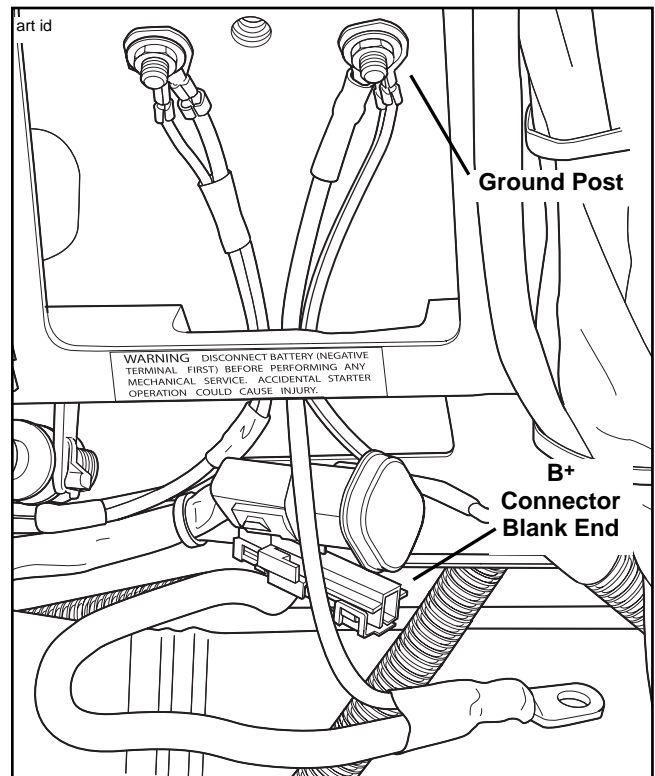

Figure 12. 2004 and Later Power B+ Connector and Ground Wire location
39. See Figure 12. **2004 and Later.** Looking toward right front and right of battery box, locate B+ connector. Obtain the RED power lead (with fuse in-line) from the CD harness, attach the electrical terminal and crimp to end of Red power lead. Insert terminal end into blank B+ connector end.